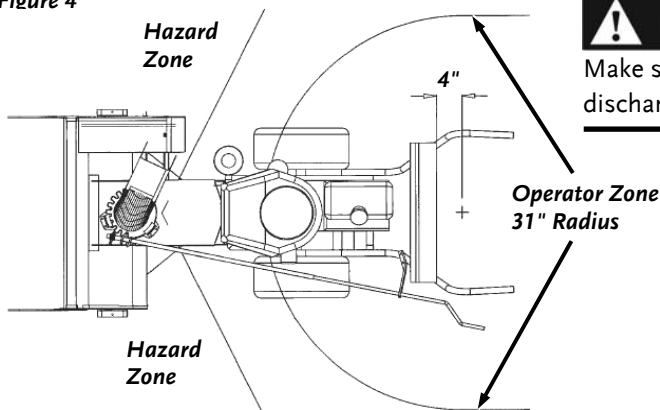

Figure 5
- Always operate the snow thrower from the “operator zone” (**Figure 5** on page 8). Never pass by the discharge chute when the engine is running or the auger is turning.
Make sure the discharge chute stops in both directions to prevent snow from discharging in the operator zone (**Figure 5**).
- Only operate the Snow Thrower from the operator zone (**Figure 5** on page 8).